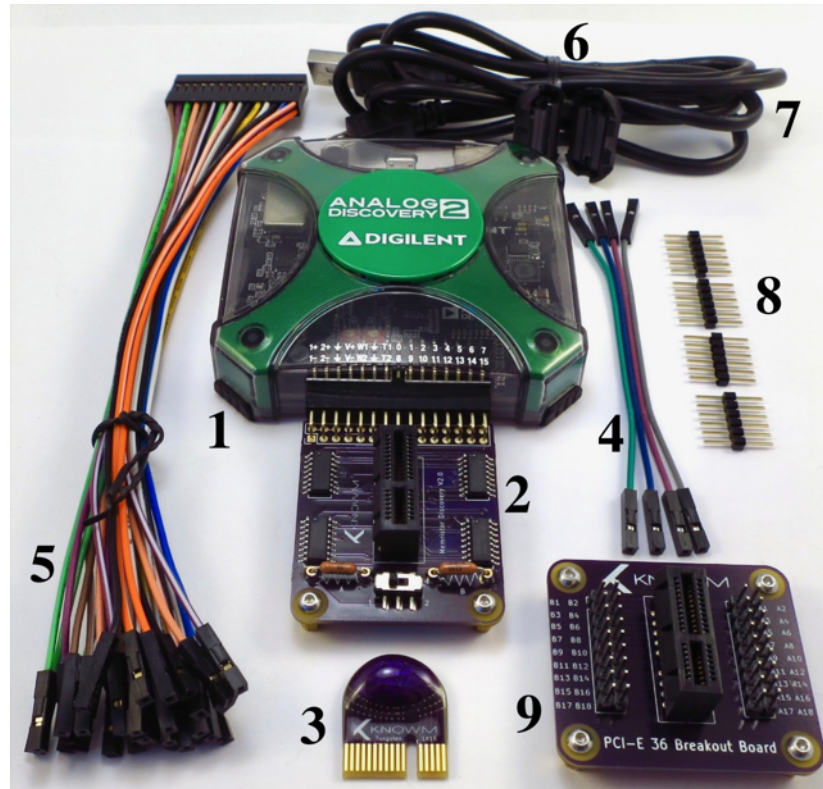

Figure 2: Memristor Discovery V2.0 Kit Contents
Each V2.0 Kit should contain the following items, as seen in Figure 2
1. Install the magnetic ferrite choke around your USB cable. See item 6 of Figure 2.